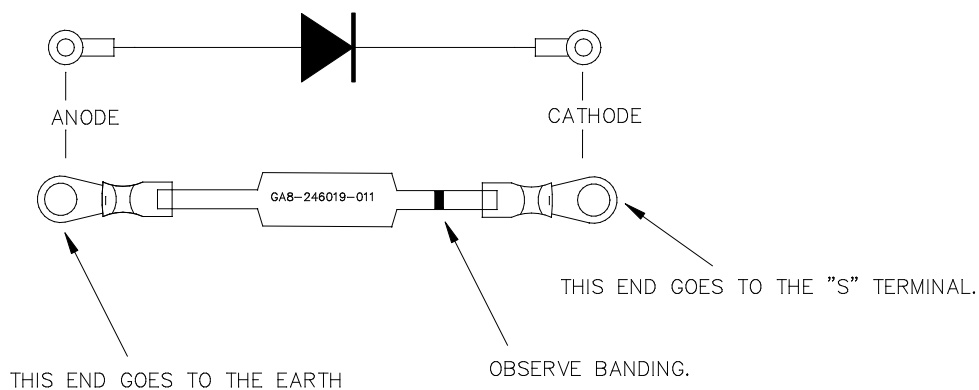

Figure 6 - Diode Assembly Marking & Orientation
- 12.1.12 Mount the inboard lug of the solenoid (Item 14 or Item 15) using Bolt (Item 5), Diode Assembly, Washer (Item 6), Penny Washer (Item 7 on aft face of firewall) and Nut (Item 9). Refer to Figure 6 for the diode orientation. The STS-S12 solenoid does not have a dedicated "S" terminal. The cathode of the diode assembly is placed in parallel with the positive terminal of the coil windings.